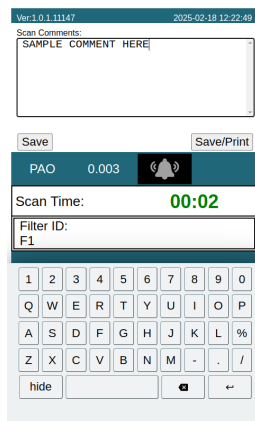
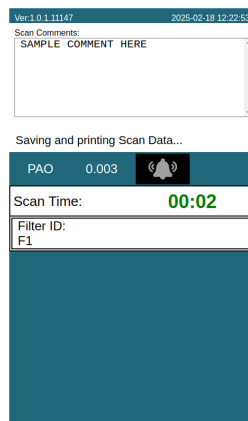

Figure 30. Save scan or Save/Print scan
Figure 31. Save/Print scan selected
**Step 2.** After a scan has been completed, the scan comments field will appear. After entering comments, the user will have the option to either Save the scan or Save/Print the scan (Figure 30). If Save/Print is selected, the scan leak data will be saved and sent to the thermal printer (Figure 31).